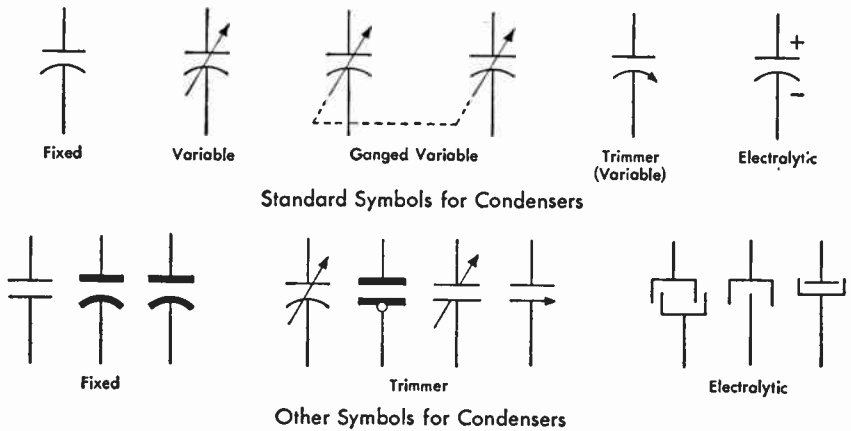

Fig. 6. Symbols used on circuit diagrams to represent different types of condensers
**Symbols for Condensers.** On circuit diagrams, fixed condensers are represented by the standard symbol shown in Fig. 6, which has one straight
Many variations of the condenser symbol may be found, but all have two plates facing each other, just as in an actual condenser. Examples of these are also shown in Fig. 6, since you will find them in older diagrams. Some are still in use.